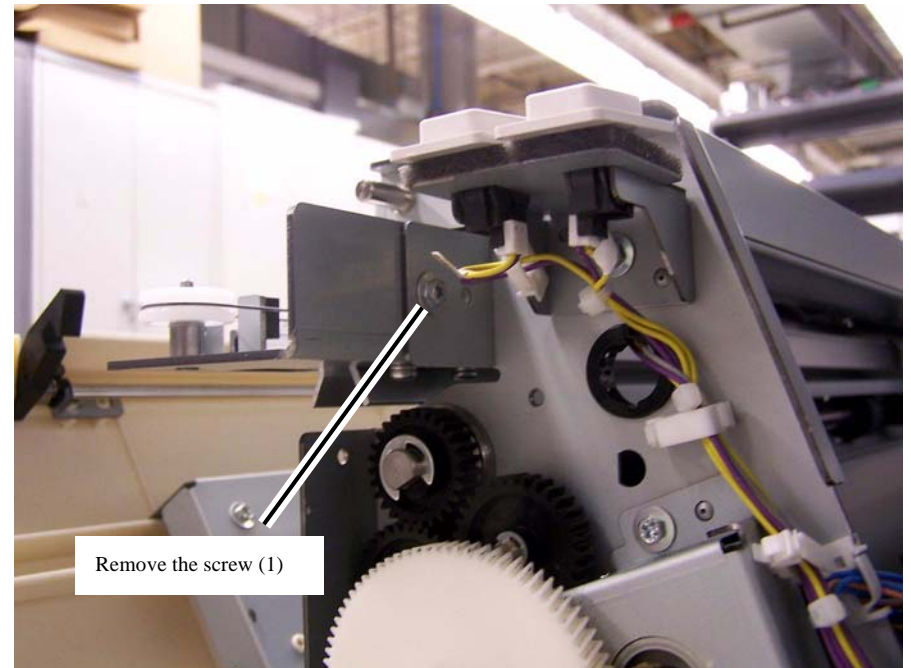

Figure 8 Removing the screw at the right end of the Cutter Assembly
10. Remove the screw that secures the Cutter Assembly to the right end of the RFC Drawer (Figure 8).